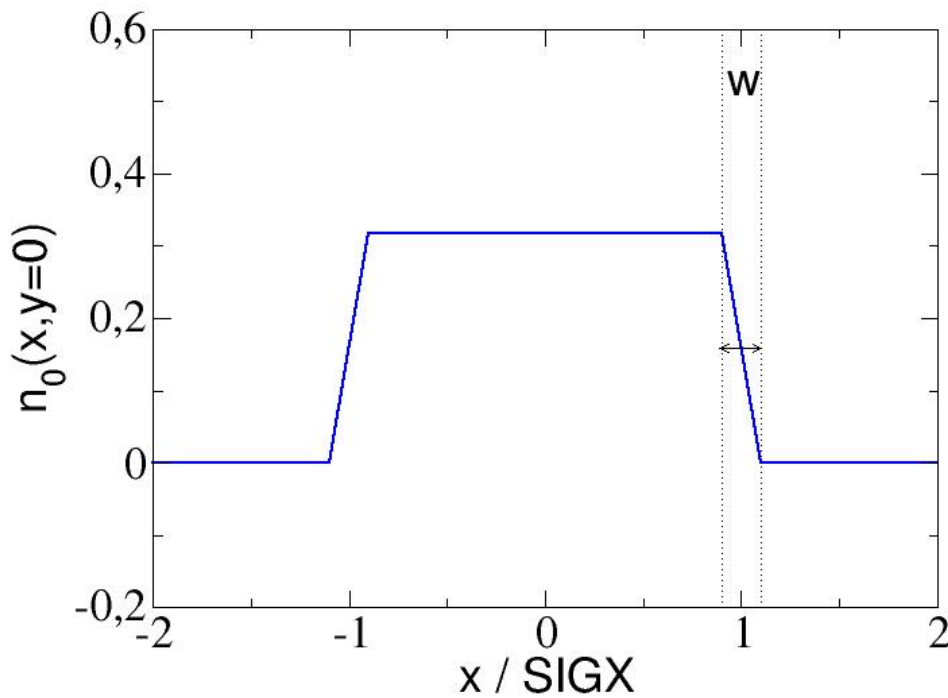

Figure 10.2: Trapezoidal shape of radial density for beam-beam lens.
- **BBSHAPE=2**: trapezoidal shape (see fig.10.2). **SIGX**, **SIGY** are the half widths of density profile, *i.e.* distance from the centre to half edge region with linear decrease of density in horizontal and vertical directions. Only circular opposite beam is possible, *i.e.* in the calculations  $SIGX' = SIGY' = (SIGX + SIGY) / 2$  is used, if **SIGX** and **SIGY** have different values. **WIDTH** denotes the full width of the edge region in units of **SIGX** (or  $SIGX'$  and  $SIGY'$ , respectively, if **SIGX** and **SIGY** are not equal), *i.e.* if **WIDTH**=0.01 and **SIGX**=5mm, the edge region has a full width of 0.05 mm. Condition: **WIDTH** < 2.0.